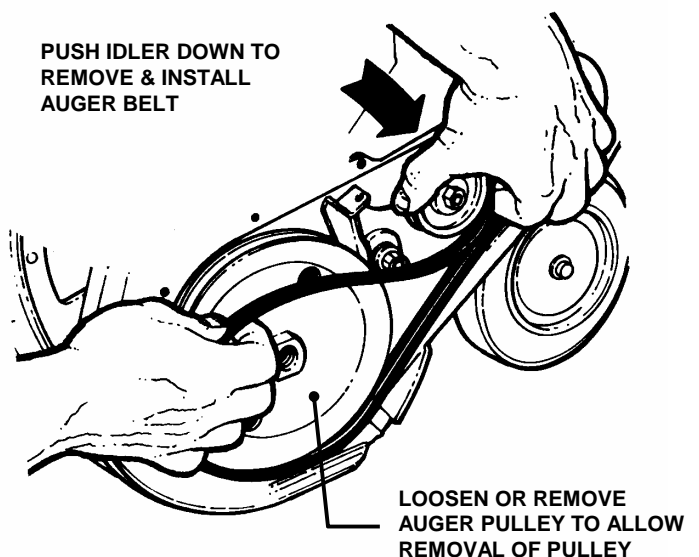

FIGURE 4.3
7. Push the spring tensioned idler pulley down and install new belt. See Figure 4.3.